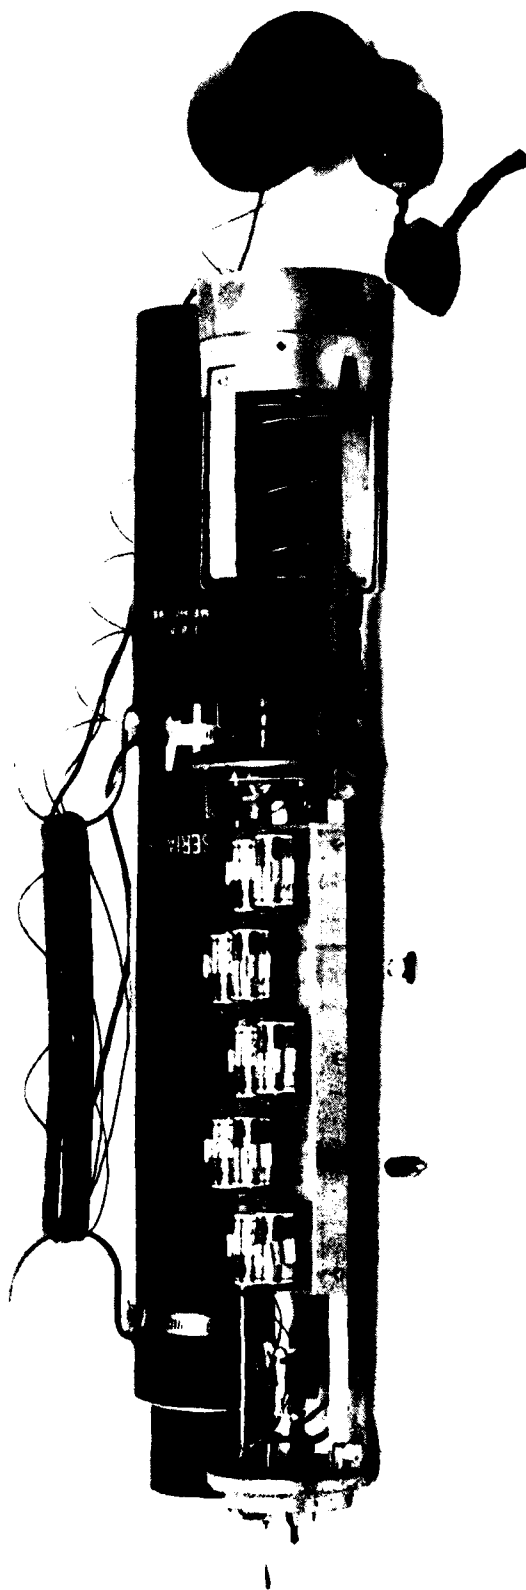

FIGURE 10
- c. Attach the reel to the sonobuoy case by using two 5 in. diam stainless steel hose clamps as shown in Fig. 10. Place the lower hose clamp around the case in the same position as the midcasting seal. This will prevent distorting the case and causing a leak. Do not overtighten the clamps because the sonobuoy case is not very strong.